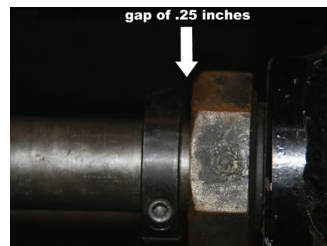

Figure G-7
G.11) Place a stop collar over the shaft of the insertion tool and tighten onto the shaft with a small gap of at least 1/4 inches above the top of the packing nut. The gap is necessary to ensure enough travel will be provided to completely install the valve cartridge. Make note of the small gap that was used (see Figure G-7).